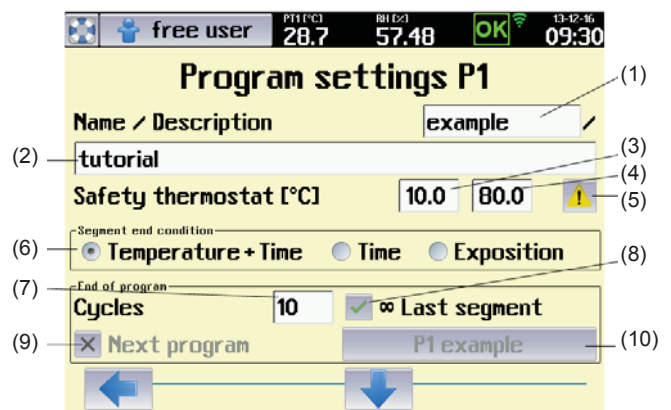

Fig. 53
The safety thermostat is used to protect the exposed material, the incubator itself and its surroundings if the temperature in the chamber of the device exceeds (falls below) the maximum (minimum) limit or in the case of regulation complications. Depending on setting of the option (3) and (4), Fig. 53 during activation of protective thermostat
- A condition for finishing a program in programs with light exposition is the selected exposition (see Fig. 53).